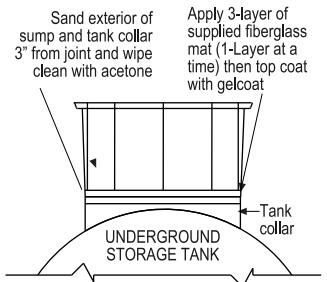

FIGURE 4
If the sump base came from the factory with a bottom in it, you will need to remove the bottom by cutting it 3/4" up from the bottom of the sump base. Carefully lower the sump base onto the tank collar and make sure that it is sitting level. Sand the exterior of the sump base and the tank collar approximately 3" on both sides of the joint with 80 grit or coarser sandpaper (Figure 4). Wipe the entire sanded surfaces clean with acetone and let dry. Check to ensure base is level. Apply three layers of supplied fiberglass mat to joining surfaces (applying 1 layer at a time) following the labeled instructions on the fiberglass bonding kit. Once fiberglass is hard, sand seam with 80 grit sandpaper. Clean with acetone and let dry. Mix and apply a generous coat of gelcoat per the labeled instructions to seal any pinholes. Wait until gelcoat hardens. Proceed to Step ⑤.